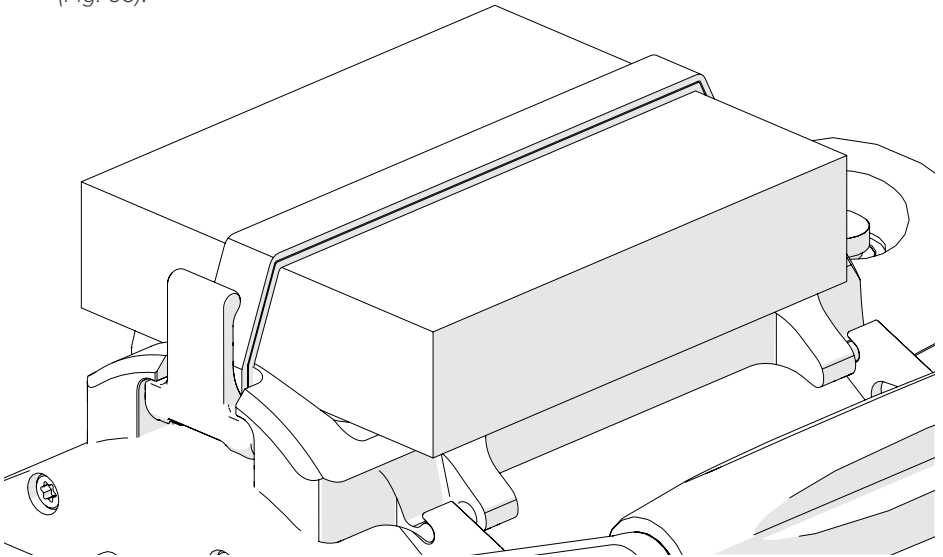

Fig. 66 - Press lever into backpack to lock in place
2. Place the scanning accessory on the backpack. Pull the strap lever across the accessory and fit the lever into place on the backpack (Fig. 66)